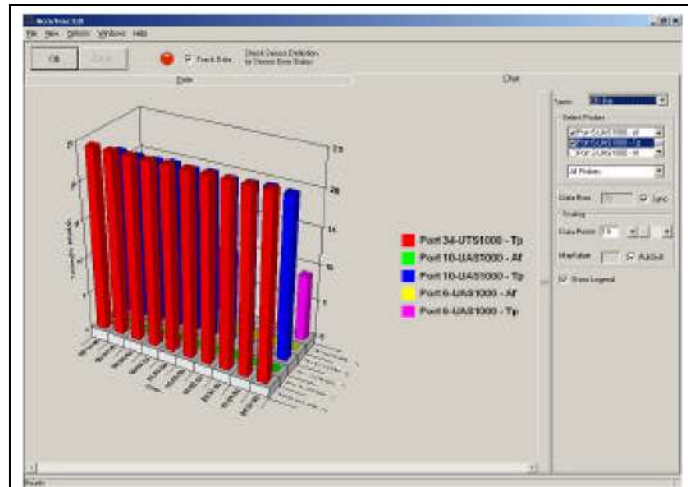

Figure 6.8: Chart screen
6.8.9 Clicking the “Chart” tab will show you a real time updating chart of the data you are collecting (Figure 6.8).